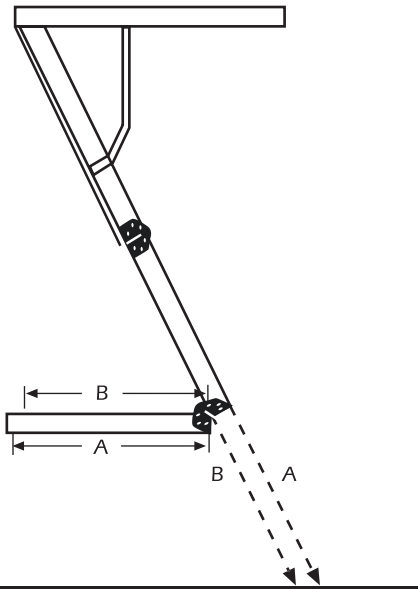

Fig. 8
Step 10- Fully extend the folding section of the stairway. Fold the bottom section of the stairway under the middle section, so that the top and middle sections form a straight line (See Fig. 8). Apply pressure on the stairs to ensure the spring arms are fully extended.
Step 11- Place a straight edge on top of the middle section and slide it down until it contacts the floor. Measure the distance from the end of the middle section to the floor (A in Fig. 8). Mark the distance on the A side (front) of the bottom stringer.
Step 12- Place a straight edge on the bottom of the middle section and slide it down until it contacts the floor. Measure the distance from the end of the middle section to the floor (B in Fig. 8). Mark the distance on the B side (back) of the bottom stringer. It is possible for the landing area to be uneven, so repeat this procedure on the other stringer.